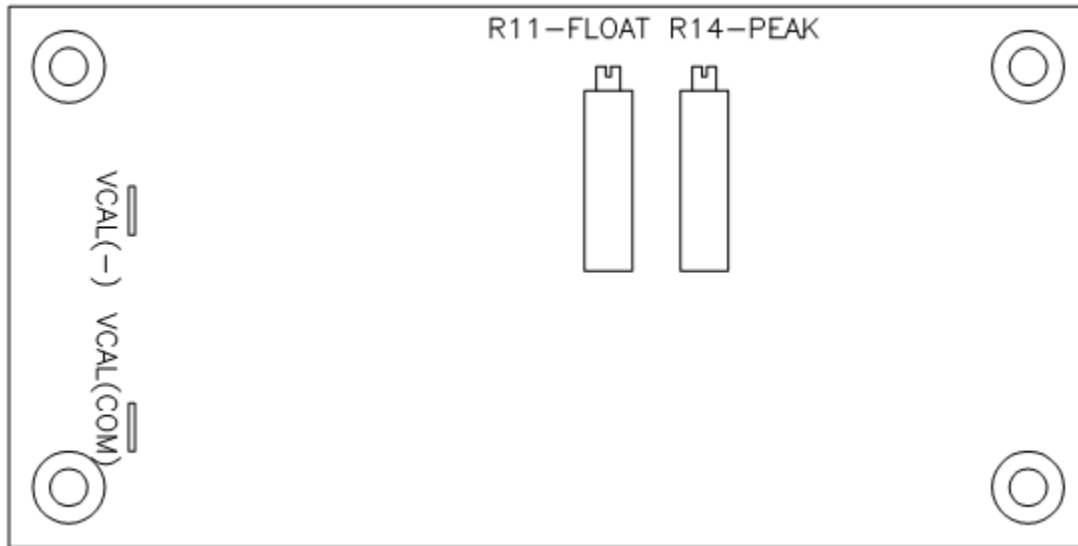

Figure 10 - Voltage Control Board Adjustments
9.2.5.2. VOLTAGE CONTROL - See [Figure 10]